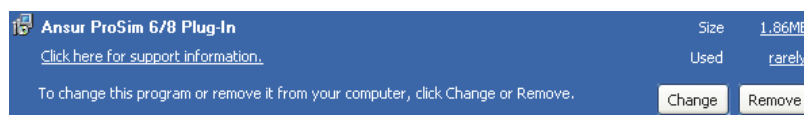

Figure 2-4. Removing ProSim 6/8 Plug-In
3. With the entry highlighted, click the **Remove** button as shown in Figure 2-4.